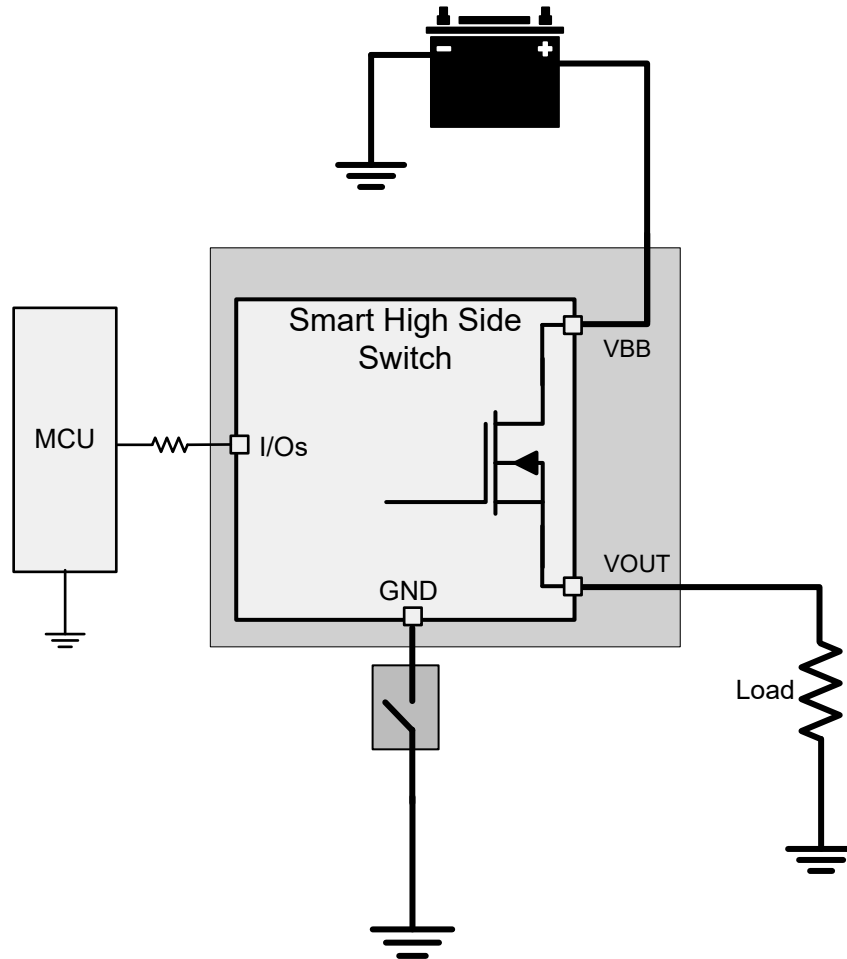

Figure 7-18. Loss of Device GND
**Case 1 (loss of device GND):** loss of GND protection is active when the thermal pad (Tab),  $I_{C\_GND}$ , and current limit ground are one trace connected to the system ground, as shown in Figure 7-18.